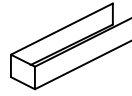

Figure 9 Open (U-Shape) Mounting Arm
2. Cut and bend a “squared-U” shaped brass strip shown in Figure 9 and solder it to the housing on the back of the target assembly. This is easier, but doesn’t look quite as good.